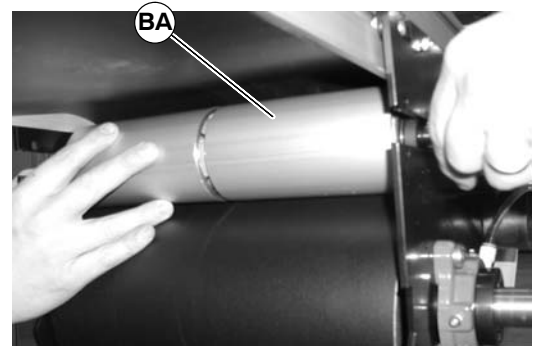

Figure 27
- Slide out tensioning roller (BA of Figure 27).